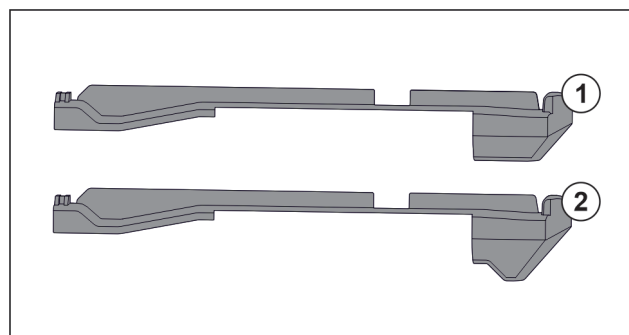

Fig. 93 Comparing attachments
There are two different attachments in the appliance. The attachment above the lowest drawer Fig. 93 (2) has a three-cornered edge. All other attachments Fig. 93 (1) have a straight edge.
- Fit attachment Fig. 93 (2) with the three-cornered edge above the lowest drawer.
- Fit attachment *Fig. 93 (1)* with straight edge in all other positions.